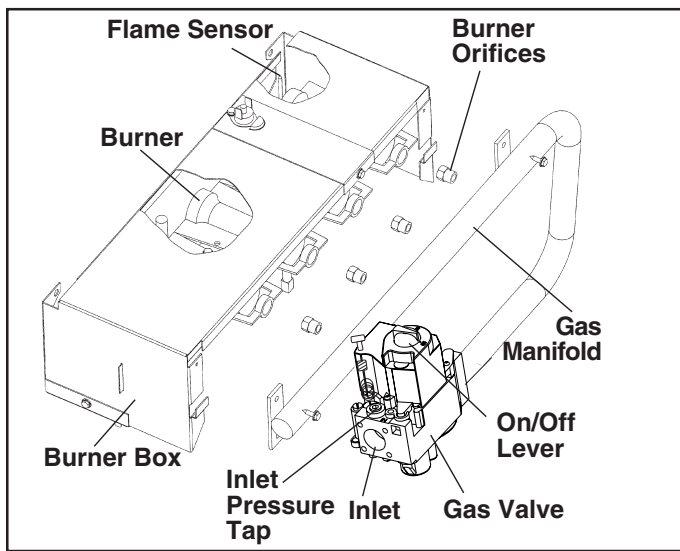

Figure 1. Typical Non-Sealed Burner Box
8. Remove the fasteners that secure the burner box to the heat exchanger panel and then remove the burner assembly from the appliance, as shown in Figures 1 and 2. Keep the fasteners that were removed. Note that the burner box may have hooks near the top of the burner box on the right and left hand sides. To remove this type of burner box, lift the burner box upwards and then remove the box from the unit.
1. Remove the fasteners that secure the gas manifold to the burner box, as shown in Figures 1 and 2. Carefully remove the gas manifold assembly from the burner box. Note that the gas manifold assembly consists of the gas valve, the gas manifold, and the orifices.
2. Carefully remove the natural gas burner orifices from the gas manifold, as shown in Figures 1 and 2.